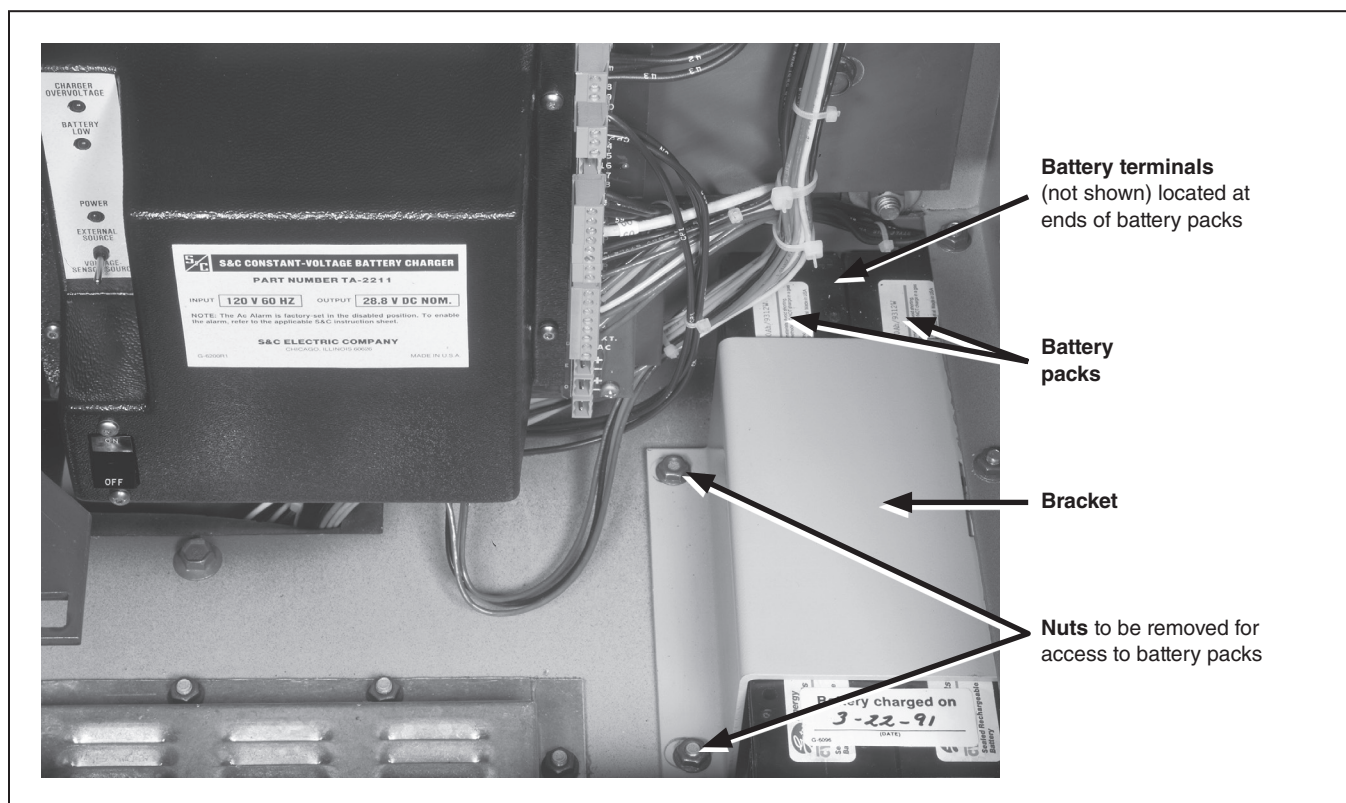

Figure 6. For battery replacement, remove the nuts that securely hold the bracket down over the battery.
- STEP 2.** Remove the nuts securing the bracket over the battery packs. Remove the bracket. See Figure 6.